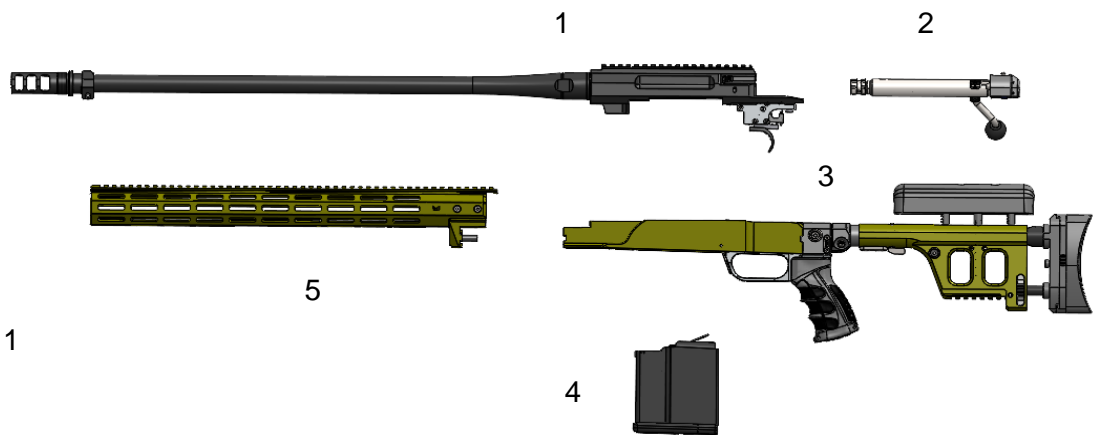

Figure 1
2.3 Cleaning assembly groups (Figure 1)